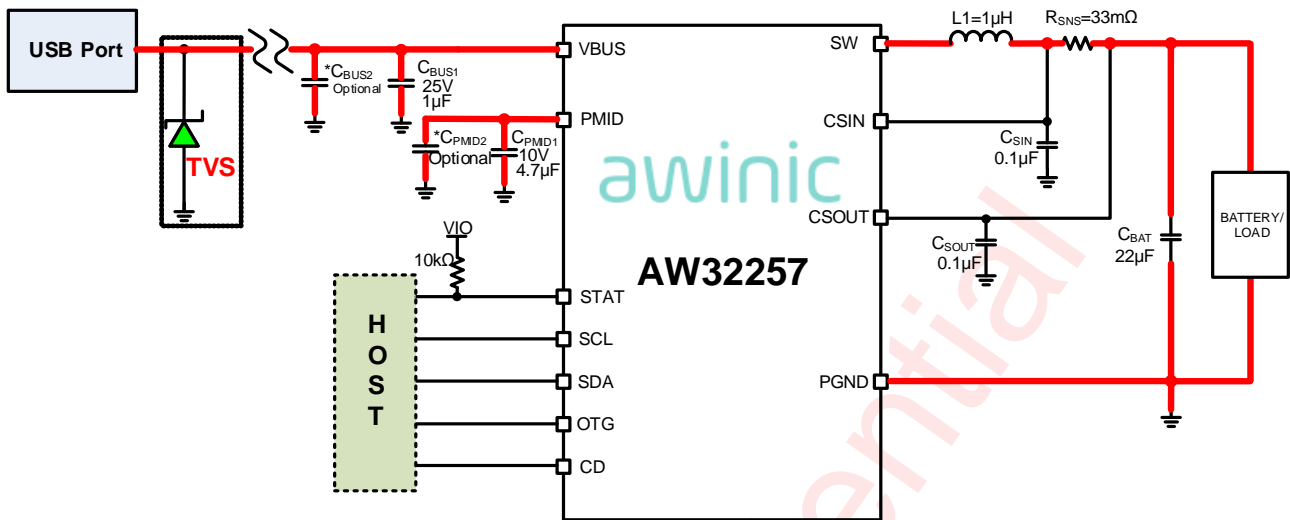

Figure 4 AW32257 Application Circuit
- 2: For the sake of driving capability, the power lines, output lines, and the connection lines of  $L1$ ,  $R_{SNS}$ , and BATTERY should be short and wide as possible. The power path is marked in red as shown in the Figure 4 above, please trace according to 2.5A power line alignment rules.
Circuit of Figure 4,  $V_{BUS}=5V$ ,  $OPA\_MODE=0$ ,  $HZ\_MODE=0$ ,  $CD\_PIN=0$ ,  $T_J=25^{\circ}C$  for typical values (unless otherwise noted)